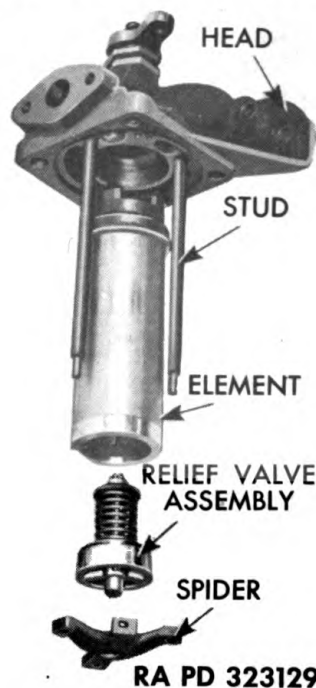

Figure 130 — Oil Filter Element, Relief Valve, and Spider Removed
c. **Remove Element** (fig. 130). Remove three cotter pins and unscrew three nuts from ends of studs. Remove relief valve spider, relief valve assembly and element.
c. Install Element (fig. 130). Place element into filter head, making sure driver locates in slots in element. Insert relief valve assembly into end of element, and install relief valve spider on valve and studs. Install nuts on studs, and lock with cotter pins.